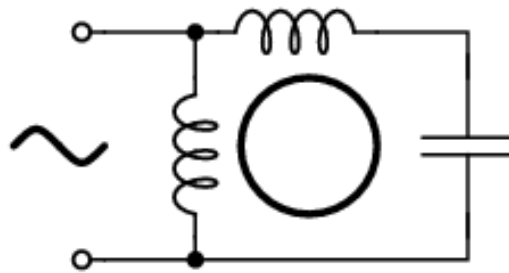

Figure 6: Capacitor run induction motor
- *Split-capacitor motors* (or capacitor run motors) also have an auxiliary winding with a capacitor, but they remain continuously energized and aid in producing a higher power factor than other capacitor designs, Figure 6. This makes them well suited to variable speed applications.